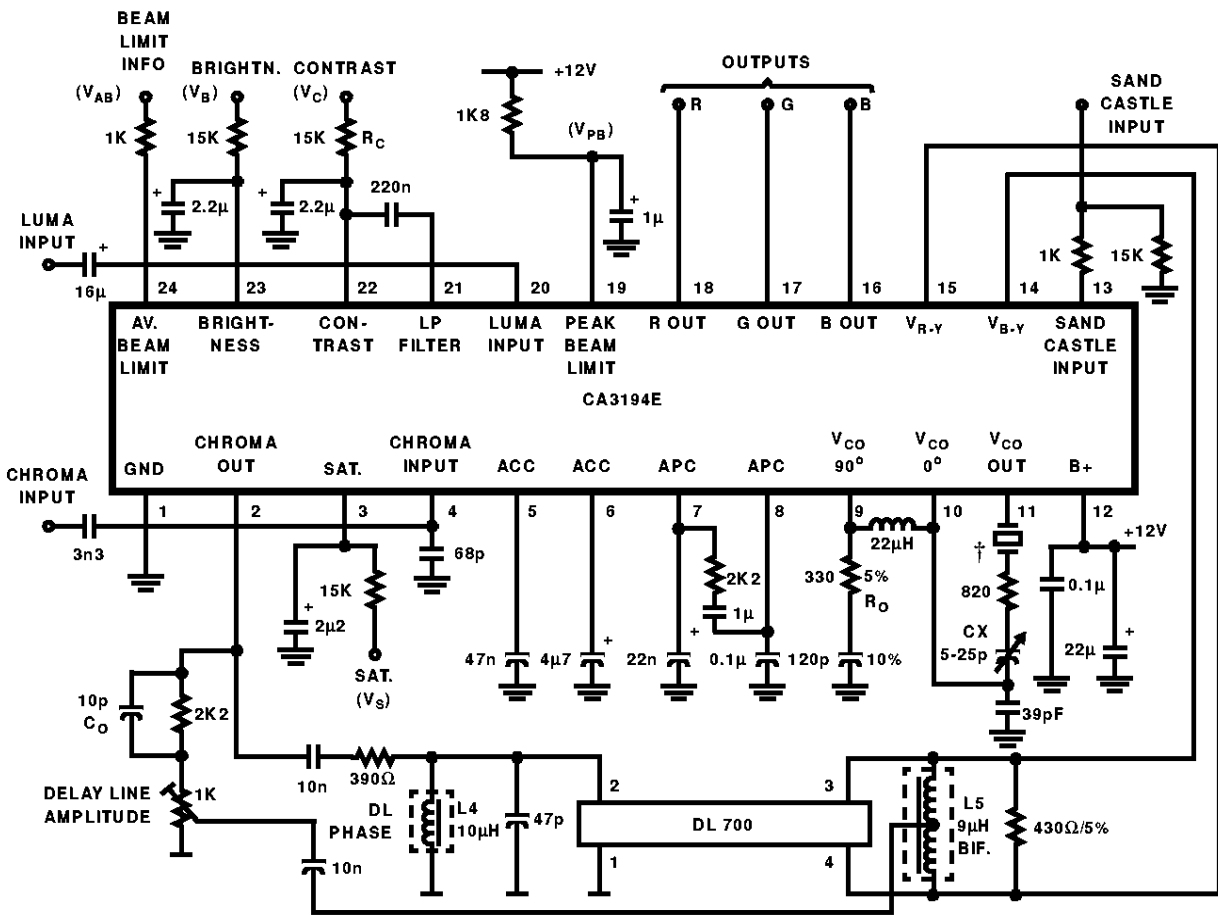

FIGURE 19. TEST CIRCUIT
**Electrical Specifications**  $T_A = +25^\circ\text{C}$ ,  $V_{CC} = 12\text{V}$ ,  $V_S = 2.85\text{V}$ ,  $V_C = 2.85\text{V}$ ,  $V_{AB} = V_{PB} = V_{CC}$ ,  $V_B$  adjusted for  $V_{18} = 6.3\text{V}$ ,  $C_X$  adjusted for  $F_{OSC} = 4.43361875\text{MHz}$ , Sandcastle:  $V_{BG} = 8.0\text{V}$ ,  $V_{BLANK} = 3.5\text{V}$  - Burst Gate centered on Burst. These conditions exist except as otherwise noted. See Figure 19 for test circuit
**Electrical Specifications**  $T_A = +25^\circ\text{C}$ ,  $V_{CC} = 12\text{V}$ ,  $V_S = 2.85\text{V}$ ,  $V_C = 2.85\text{V}$ ,  $V_{AB} = V_{PB} = V_{CC}$ ,  $V_B$  adjusted for  $V_{18} = 6.3\text{V}$ ,  $C_X$  adjusted for  $f_{OSC} = 4.43361875\text{MHz}$ , Sandcastle:  $V_{BG} = 8.0\text{V}$ ,  $V_{BLANK} = 3.5\text{V}$  - Burst Gate centered on Burst. These conditions exist except as otherwise noted. See Figure 19 for test circuit (**Continued**)